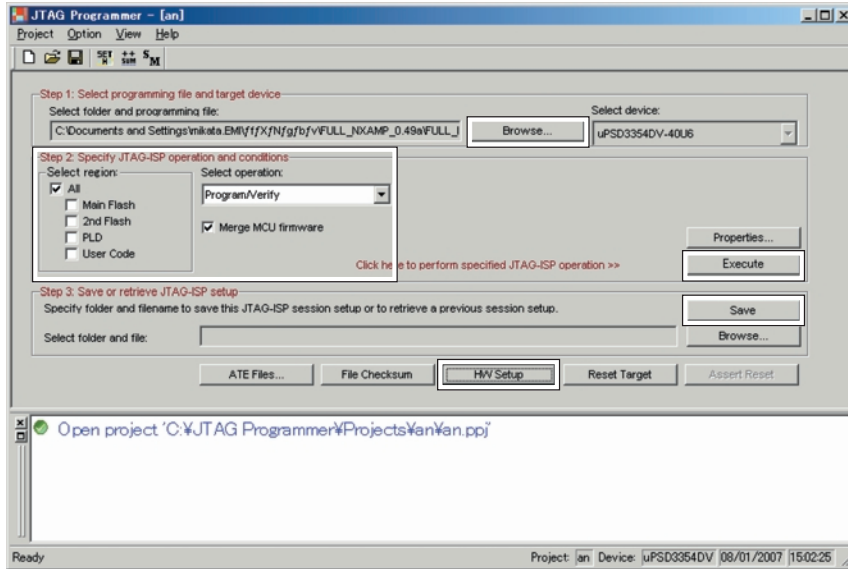

Fig. 3 JTAG Programmer screen
- 5) Click the [Create] button, and the following JTAG Programmer screen appears. (Fig. 3)